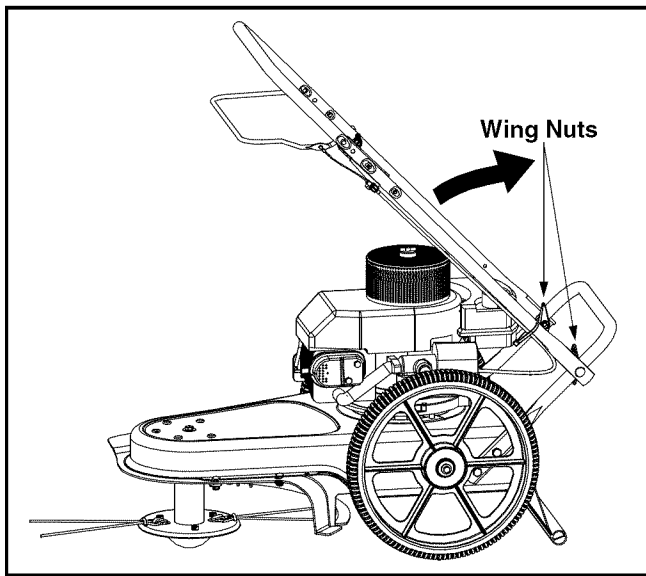

Figure 1
- Lift up and pull back on the upper handle to raise the handle into the operating position. To secure the upper and lower handle, tighten the wing nuts near the top of lower handle (carriage bolts must be seated properly into the handle). See Figure 1.